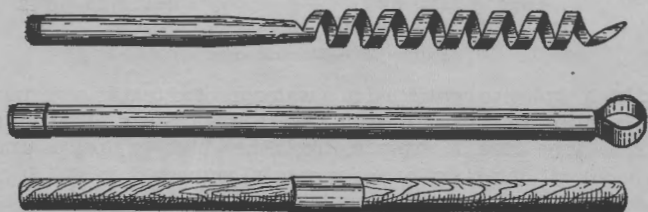

FIGURE 86.—Mining drill.
h. Tools for boring holes.—Holes in earth, concrete, rock, or other material in which explosive charges may be placed are made with many kinds of hand and power tools. Miners' tools are shown in figures 86, 87, and 88. Tools other than those shown here include the air compressor, with its rock and pavement-breaking attachments (see figs. 30 and 31), and two types of earth auger, one of which drills holes 6